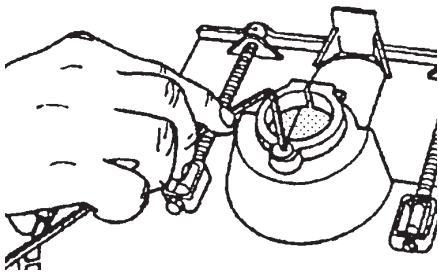

Figure 105
- c. Use a 5/32" Allen Wrench to adjust the Stop Screw located below the Lower Saw Guard's Collar. Shown in Figure 105.